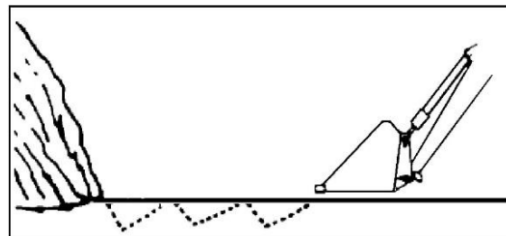

Fig 4.13. Prevent Gouging.
- It is important to keep the bucket level when approaching a bank or pile. This will help to prevent gouging the work area shown in figure 4.13